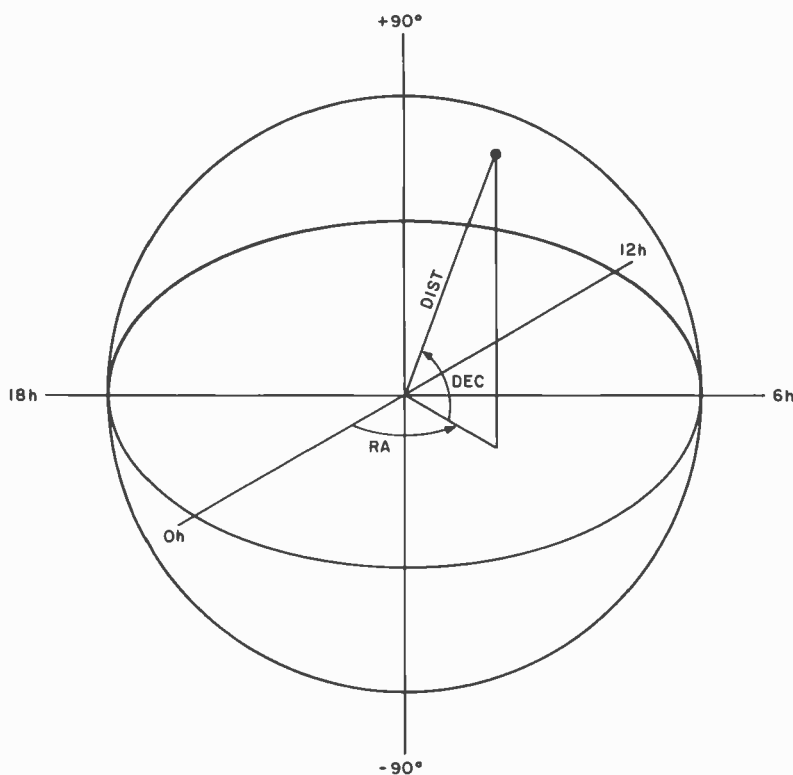

Figure 1: The celestial coordinate system.
Several things are needed to simulate the stars in our galaxy; an algorithm that will allow us to shift our position with respect to the Earth based coordinate system; actual or hypothetical coordinates of stars; and a display device on which to plot the resulting star maps. The first version of this program was written four years ago and run on an IBM 1130 computer. Output was in the form of a printer plot. 50 stars were entered, using data on the 50 brightest stars in our sky. Since positions given in star catalogs are in celestial (spherical) coordinates, right ascension (RA) corresponding to longitude (0 to 23 hours), declination (DEC) corresponding to latitude ( $-90$  to  $+90$  degrees), and distance in light years were entered directly into a disk file. The program then performed the necessary conversions to get values in radians. Figure 1 shows the celestial coordinate system.